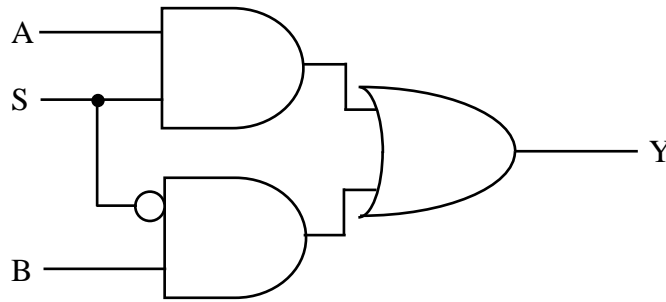

Figure 2: Logic Circuit
2. A logic circuit is shown in **Figure 2**.
- d. *Can you give the more common or standard name given to the type of circuit shown in **Figure 2**.*